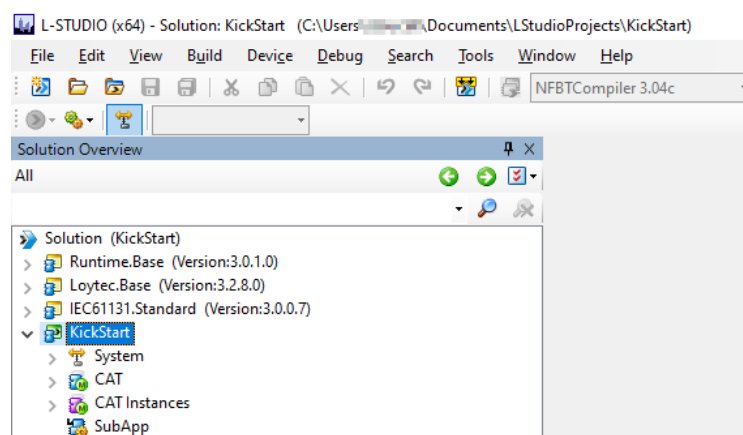

Figure 41: Blank L-STUDIO solution.
3. This create a blank solution named 'KickStart' as shown in Figure 41